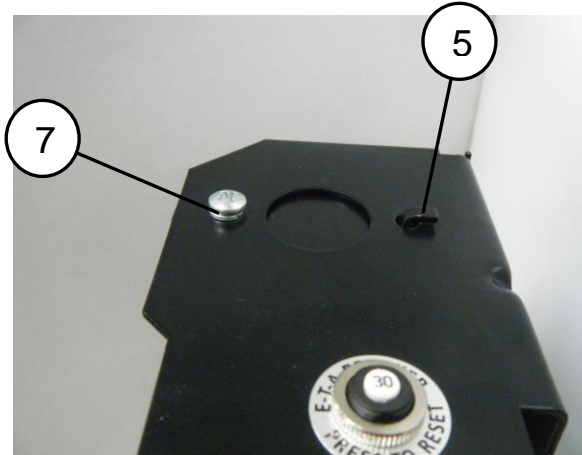

Fig 2A.
3. Insert pre-assembled Buzzer Kit Pin 5 into Pump Chassis, as shown in Fig 2A.